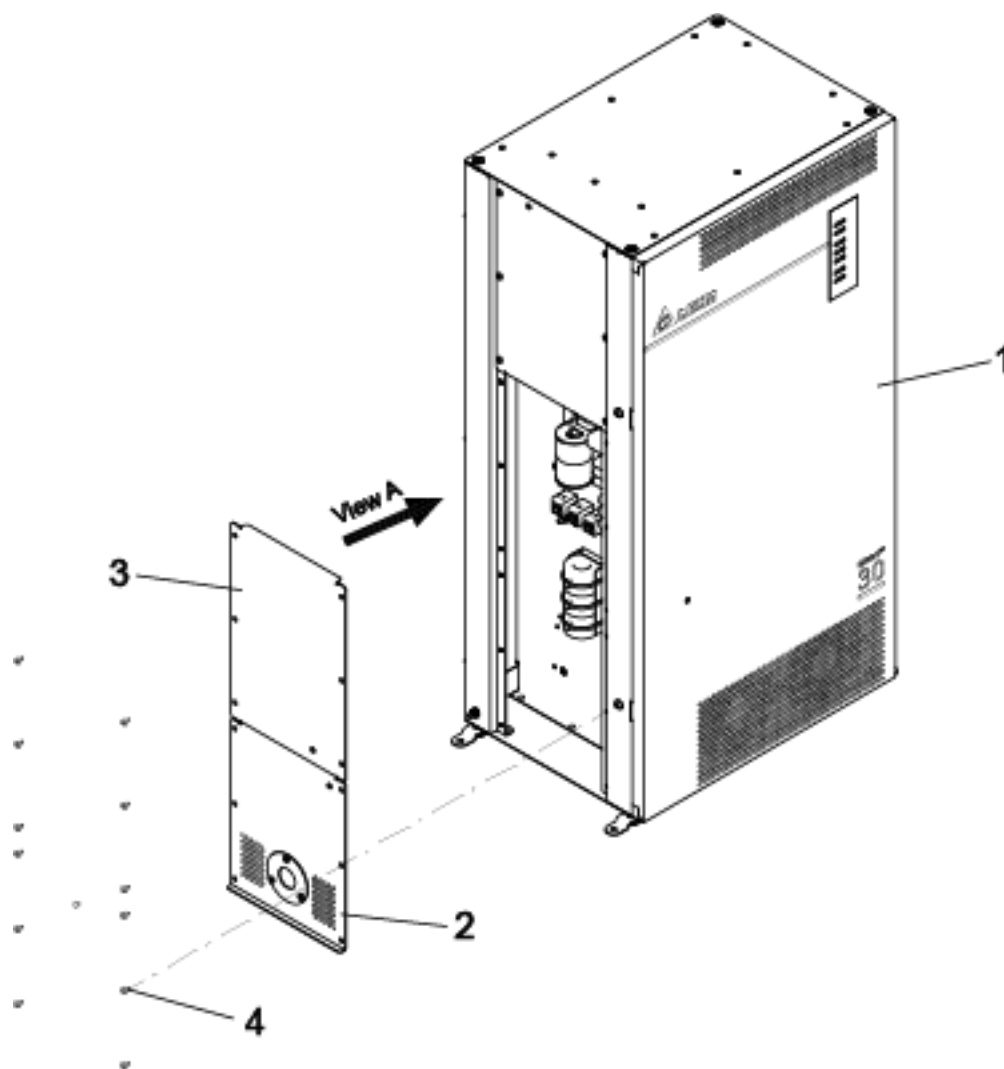

Figure. 32 Replacement of Fuses – Part 1
2. Remove six screws (4) and remove the middle cover (3) and lower cover (2). See Figure. 32
6. Install middle cover (3) with six screws (2).